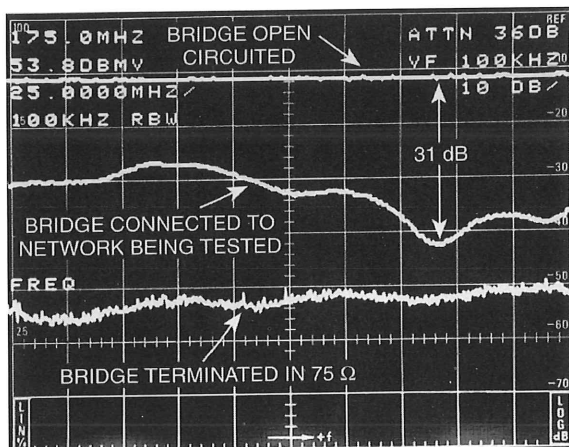

Figure 31. Return-loss plotted from 50 to 300 MHz.
5. Activate MAX HOLD in waveform A (turn off all active display registers then press [A] / [MAX HOLD A&B]) and slowly sweep the signal generator across the frequency span you wish to analyze. The 2714/2715 should show a roughly flat horizontal line across the top of the screen (similar to the top line in Figure 31). This represents the response of the generator, bridge, and test leads when all energy is reflected. Save the waveform by pressing [SAVE ENABLE] / [A].
6. Terminate the bridge in its characteristic impedance and activate MAX HOLD in waveform B. Again sweep the generator slowly across the frequency span. This time you should see a roughly flat horizontal line 30 to 60 dB below the previous line (similar to the bottom line in Figure 31). This represents the response of the leads when all energy is absorbed. Note the amplitude of the line. It's the lowest possible voltage that can be observed from the device-under-test, and only when the impedance of the device exactly equals the bridge characteristic impedance.
8. The resulting curve should be somewhere between the amplitudes of step 5 and step 6. The return loss is the difference between the amplitude in step 5 and this curve. Figure 31 is a plot of the return loss of a network plotted from 50 MHz to 300 MHz.